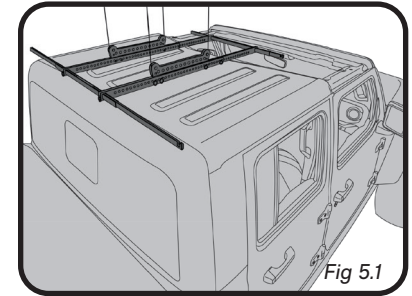

Fig 5.1
3. Slowly lower the hardtop frame onto the hardtop. (Fig 5.1)